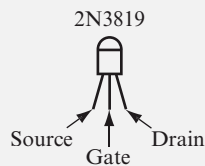

FIGURE 4.23
- One 2N3819 JFET (Figure 4.23 shows the pinout for the 2N3819.)